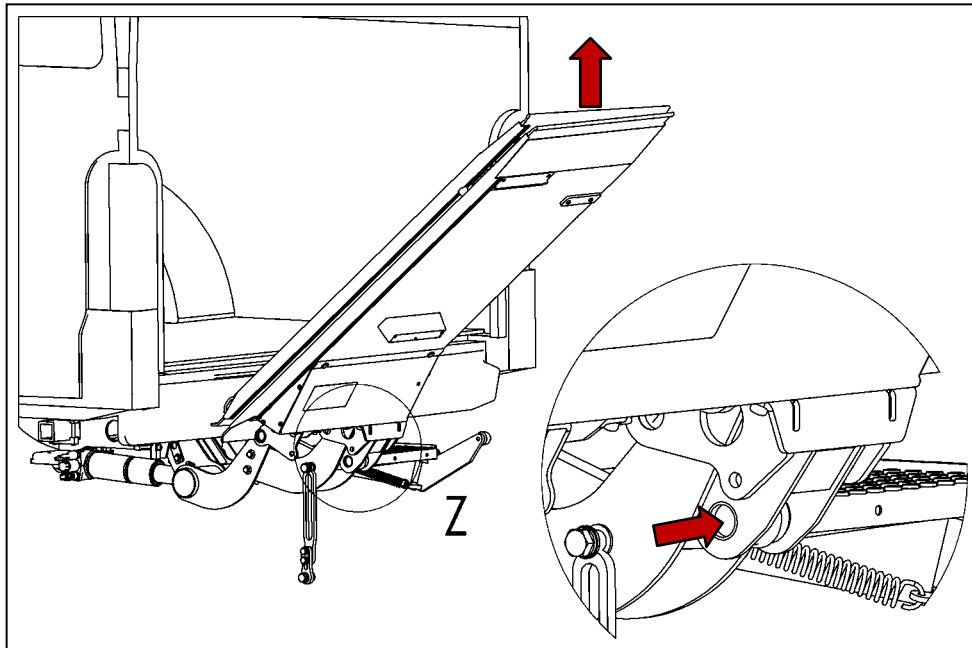

Figure 60
- Lift the tip of the platform until the closing-rod bearing point (attachment point for the closing rod) is aligned with the swing-arm bearing point (bottom attachment point on the platform) (see Fig. 60).